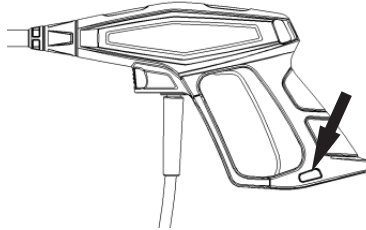

Figure 5
4. Push the trigger lock button through the switch lever to lock the trigger to the OFF position. See figure 5.